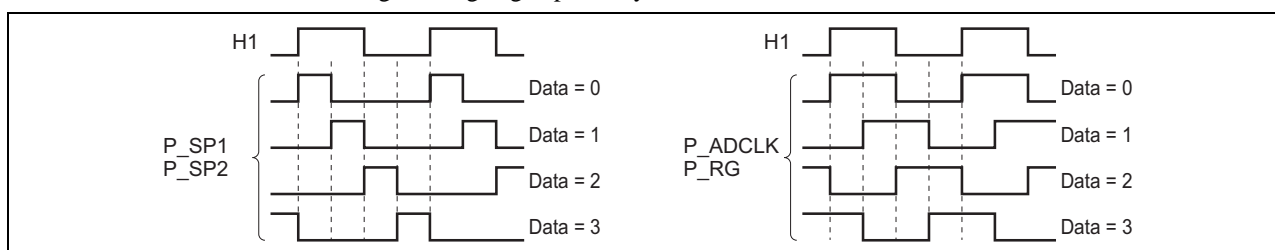

Figure 13 2 Divided Mode, 1/4 Phase Select (Valid at D15 = 0 of address H'F8)
- Select the 1/4 phase from figure 13 at 2 divided mode (D15 = 0 of address H'F8).